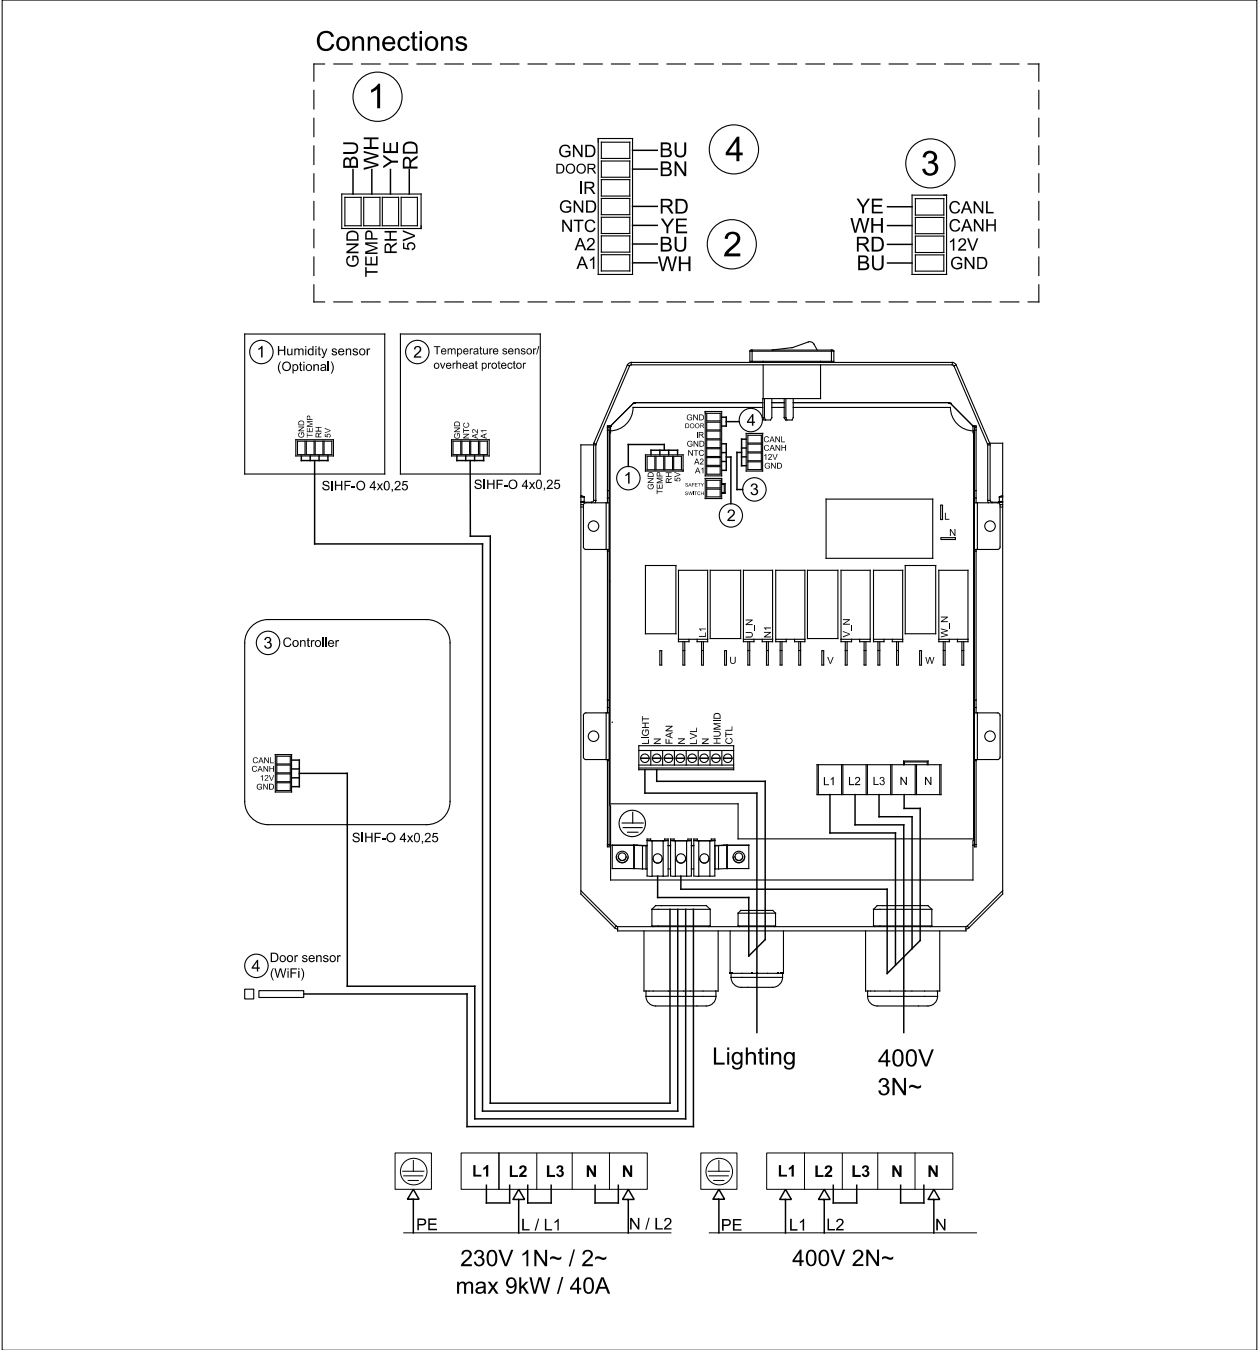

Figure 2. Wiring diagram
6. Once the components of the controller have been installed and connected, the power supply cable can be connected to the sauna heater according to the wiring diagram (Figure 2). The power supply cable must be a rubber cable of type H07RN-F or equivalent. The cable cross-section and fuse rating are shown in Table 3.